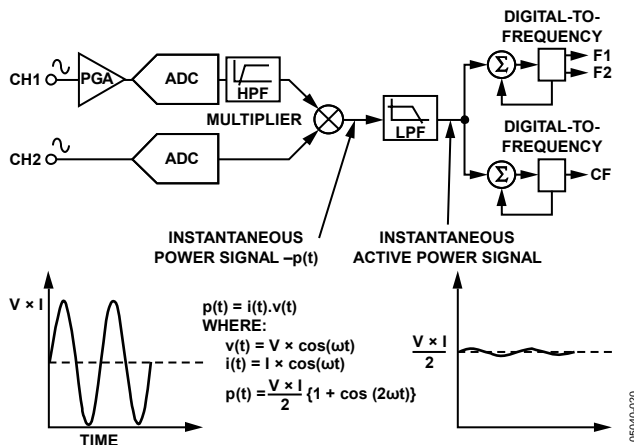

Figure 22. Signal Processing Block Diagram
The active power calculation is derived from the instantaneous power signal. The instantaneous power signal is generated by a direct multiplication of the current and voltage signals. To extract the active power component (dc component), the instantaneous power signal is low-pass filtered. Figure 22 illustrates the instantaneous active power signal and shows how the active power information can be extracted by low-pass filtering the instantaneous power signal. This scheme correctly calculates active power for nonsinusoidal current and voltage waveforms at all power factors. All signal processing is carried out in the digital domain for superior stability over temperature and time.
The pulse output calibration frequency (CF) is intended for use during calibration. The output pulse rate on CF can be up to 2048 times the pulse rate on F1 and F2. The lower the F₁₋₄ frequency selected, the higher the CF scaling. Table 7 shows how the two frequencies are related, depending on the states of the logic inputs S0, S1, and SCF. Because of its relatively high pulse rate, the frequency at this logic output is proportional to the instantaneous active power. As with F1 and F2, the frequency is derived from the output of the low-pass filter after multiplication. However, because the output frequency is high, this active power information is accumulated over a much shorter time. Therefore, less averaging is carried out in the digital-to-frequency conversion. With much less averaging of the active power signal, the CF output is much more responsive to power fluctuations (see Figure 22).